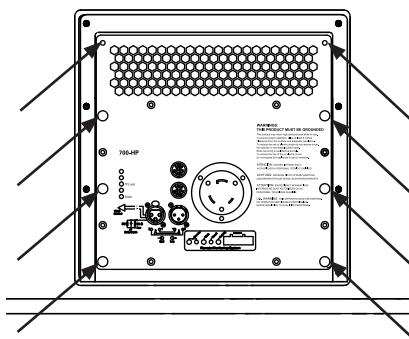

Figure A.3. Location of the eight screws securing the HP-2/700 amplifier module
1. Using a #2 Phillips screwdriver, remove all eight screws from the amplifier module. This will free the HP-2/700 electronics module from the cabinet (Figure A.3).